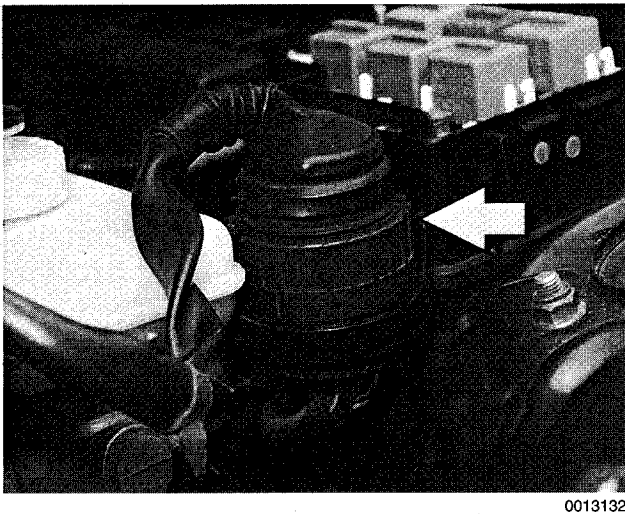

Fig. 13. Main engine harness connectors in rear of engine compartment (arrow).
17. Working below intake manifold, disconnect harness connectors. Cut wire ties holding engine harness to bulkhead and disconnect main engine harness connector at rear of engine compartment. See Fig. 13.